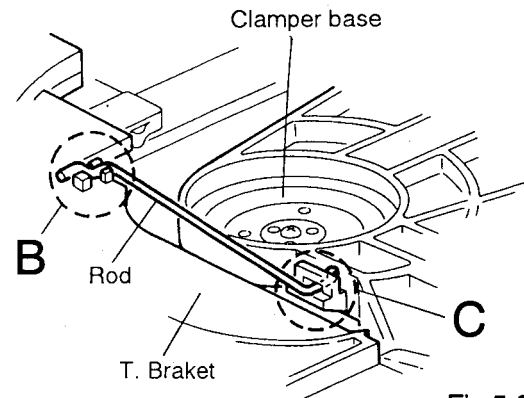

Fig.5-36
(See Figs. 5-36~5-38)
4. From the T. bracket section "B" and clamber base section "C", remove both of the edges fixing the rod (See Figs. 5-36 and 5-37).